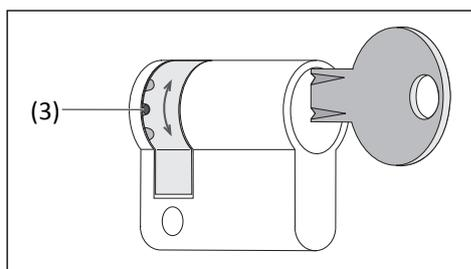

Figure 4
- Push locking pin into lock bit from the side and move lock bit to the desired position (Figure 4).